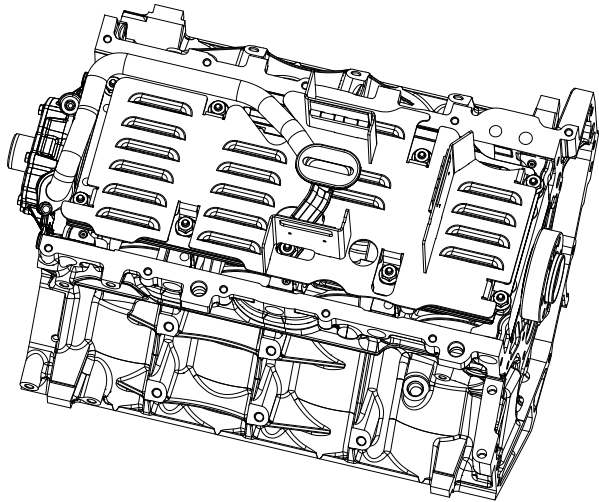

Figure 3 - Crank scraper, oil pan baffle and pickup tube shown installed
10. Secure the oil pick up tube to the oil pump, then secure the oil pickup tube bracket to the main stud. Torque the oil pump bolt to **106 lb-in (8-9 lb-ft)**. **Do not over-tighten!** The pickup tube bracket nut must be secured from the side using a wrench. Torque the pickup tube bracket nut to **18 lb-ft**. The completed assembly should resemble Figure 3.